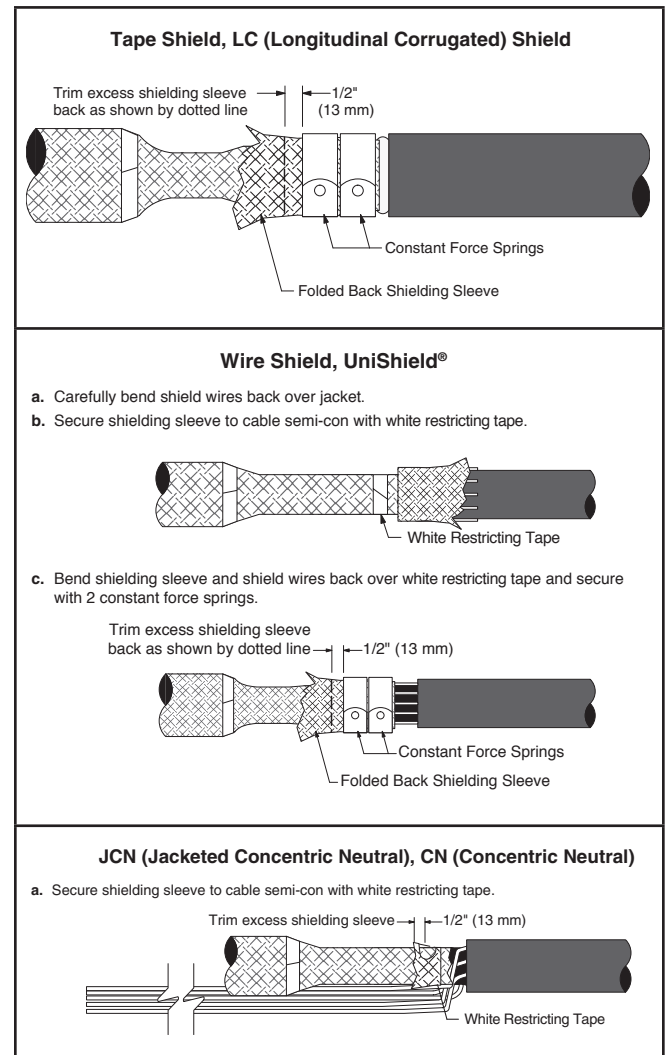

Figure 20
- 7.5 For non-JCN/CN cable, secure opposite end of sleeve to Poly/EPR metallic shield with 2 constant force springs. Refer to Steps 7.2 and 7.3 above and to the appropriate cable type in Figure 20.
- 7.6 Trim shielding sleeve 1/2" (13 mm) from springs or white restricting tape (on CN or JCN cable) (Figure 20).